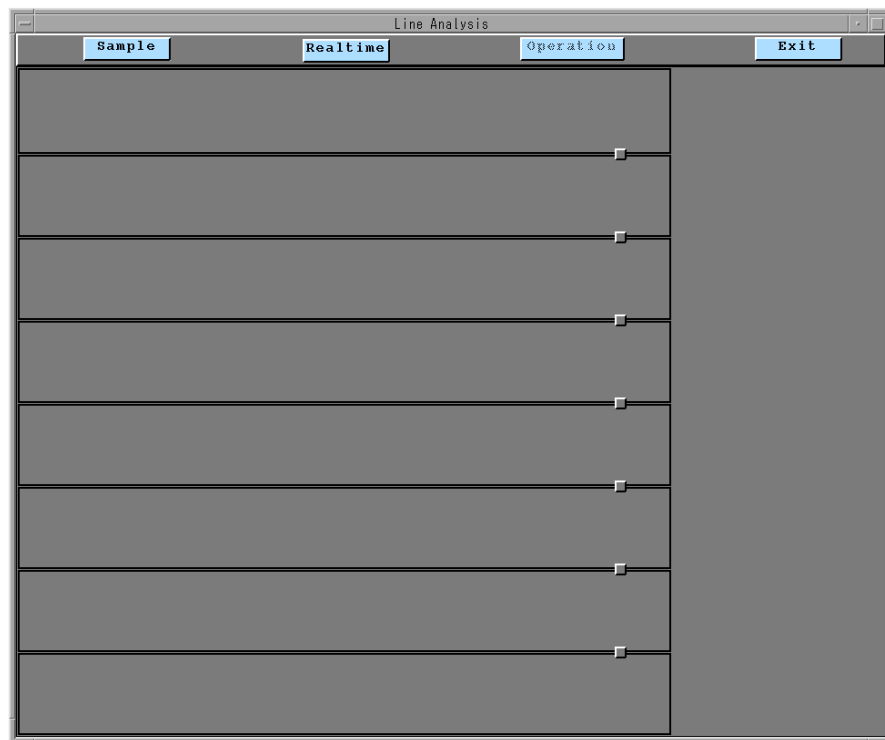

Fig. 23 Line Analysis function window (for processing)
1. Click on the **Sample** button in the Function window shown in Fig. 23.